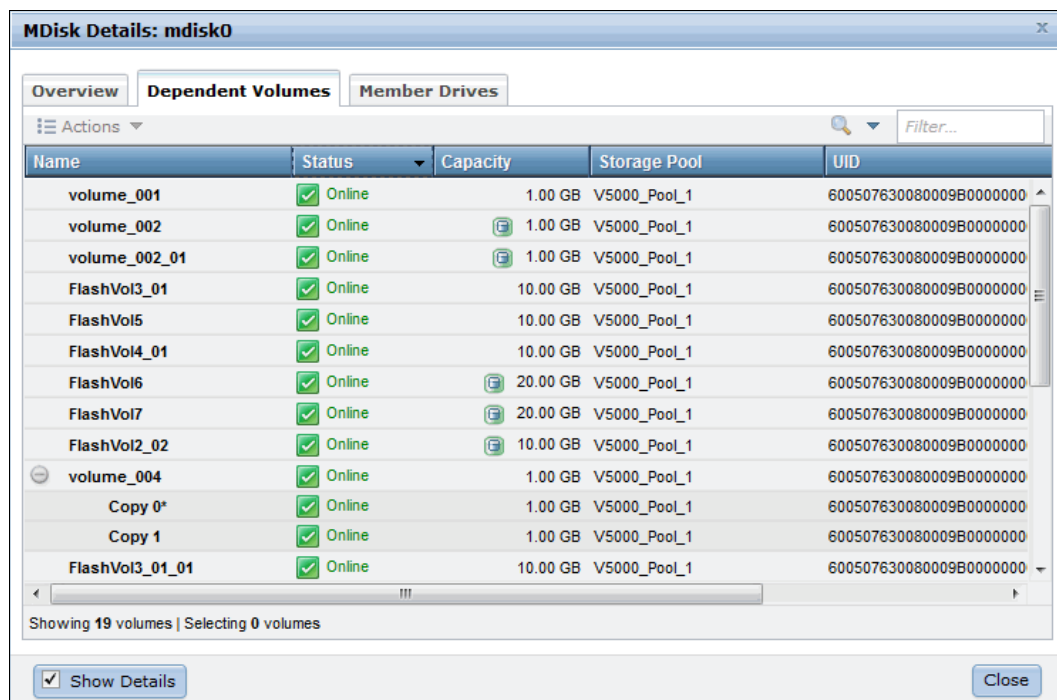

Figure 7-76 MDisk dependent volumes
- The Dependent Volumes tab (as shown in Figure 7-76) lists all of volumes that use extents on this MDisk.